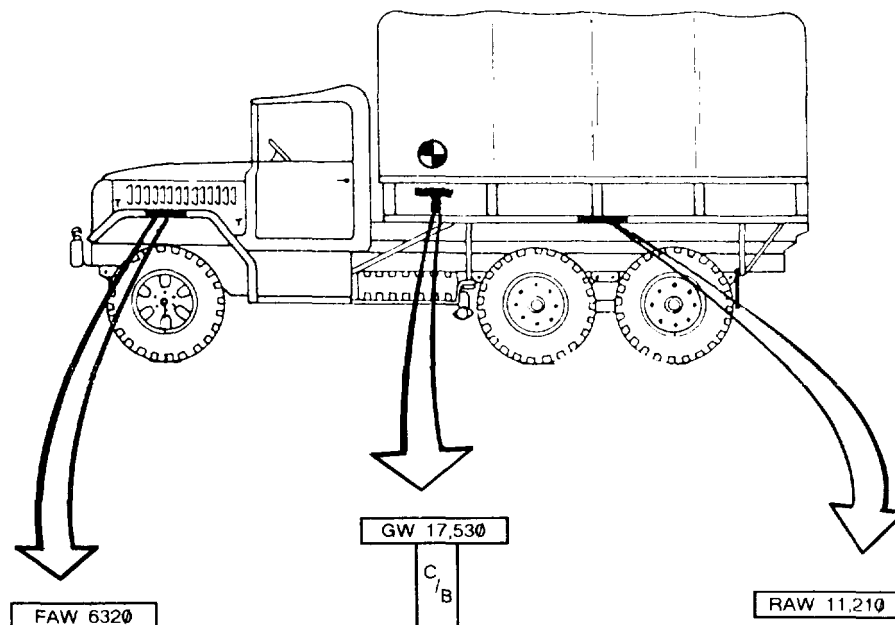

Figure 2-7.—Marking procedures.
NOTE: The RAW for vehicles with tandem axles is the weight of the IAW and the RAW added together and labeled above the trunnion (fig. 2-7).
Step 12. Determine the total moment (TM). TM is determined by adding all the moments together. The formula is $M1 + M2 + M3 = TM$.
Step 14. Locate the center of balance (C/B). The C/B is located by measuring from the RDL the number of inches computed in Step 13. At that point, label on the side of the vehicle with masking tape, a letter "T." The horizontal portion of the tape is labeled "GVW" plus the weight. The vertical portion of the tape is labeled "C/B" and the distance in inches measured from the RDL (fig. 2-7).